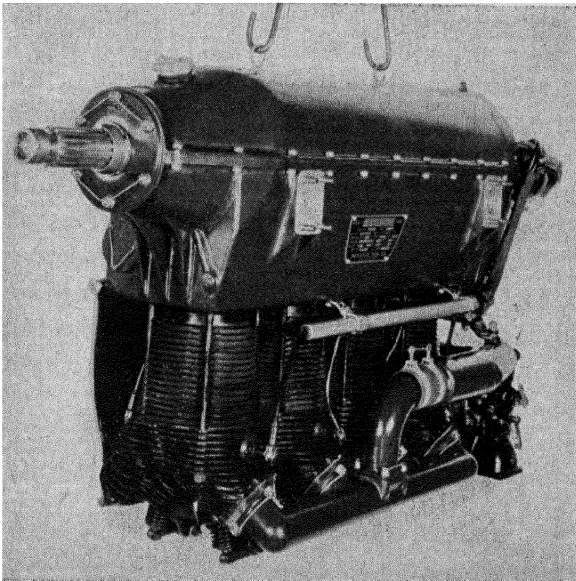

Fig. 274.—Menasco B-4 inverted in-line aircraft engine. (Courtesy of Aviation.)
3. Complete the missing data in the following specifications of the engine shown in Fig. 274: